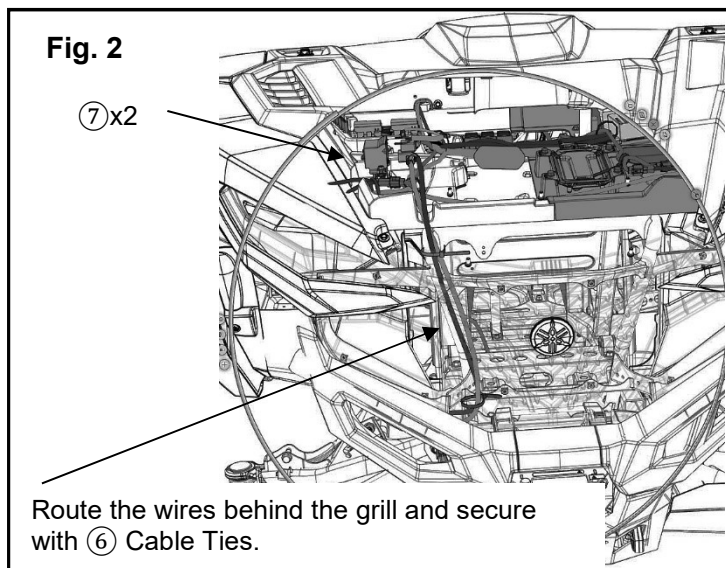

Fig. 2
3. Insert two 7 M5 Clip Nuts into the molded mounting location under the hood. (Fig. 2)
4. Install the Contactor in the hood section using screws supplied in the winch kit and Fig. 2 shows the mounting orientation. (Align the Contactor with the terminals facing to the driver's side.)
7. Connect the 3 WIRE 3, Blue (-) and 4 WIRE 4, Yellow (+) wires to the Contactor. Route them down behind the grill and connect them to the winch. Use 6 Cable Ties to secure the two wires to the vehicle. (Fig. 2)